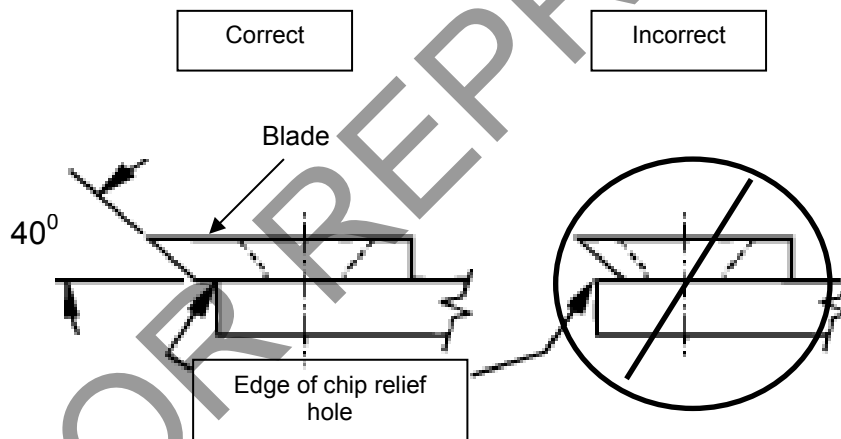

Fig. 9
3. Sharpen blade by lightly grinding the cutting edge of the blade at **40 degrees** (see *Fig. 9* below). It is not necessary to remove all nicks from the cutting edge. *CAUTION:* Be careful to avoid heat buildup in the blade during sharpening. This will reduce its heat-treated hardness properties and will reduce blade life. Evidence of too much heat build-up is a change of color along the sharpened edge.
4. The same chipper blade can be sharpened several times. However, blade replacement is required when blade no longer overhangs the chip relief hole in the impeller back plate, or if increased vibration occurs (see *Fig. 9*).